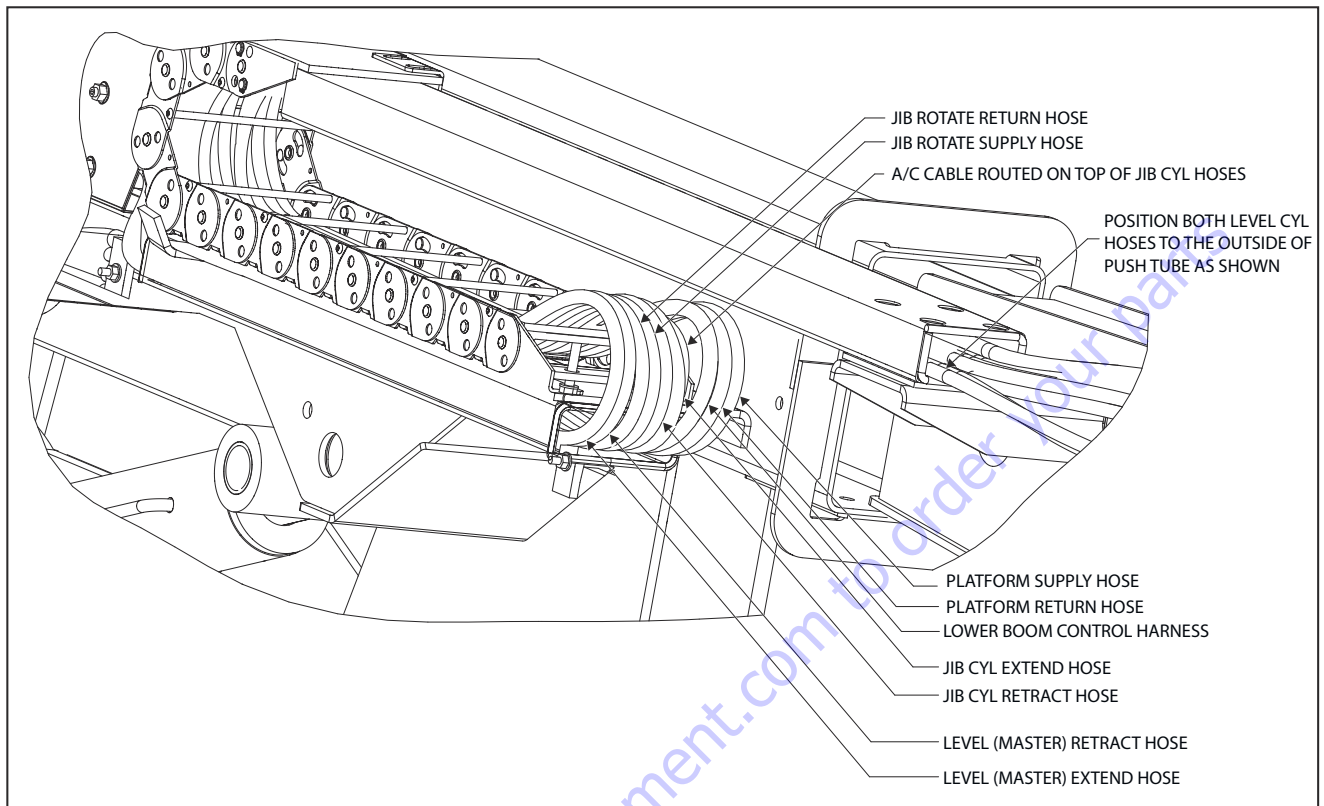

Figure 4-5. Power Track Hoses
- Install the power track and hoses/lines onto the boom support brackets and secure in place with the retaining hardware. Refer to, Figure 4-5., Power Track Hoses